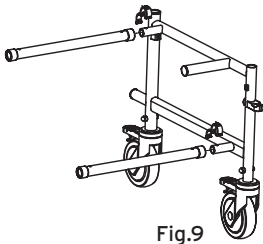

Fig.9
- Insert the fixing tubes on the left or right side frame, align the holes and insert the C-clips as shown in Fig.9;